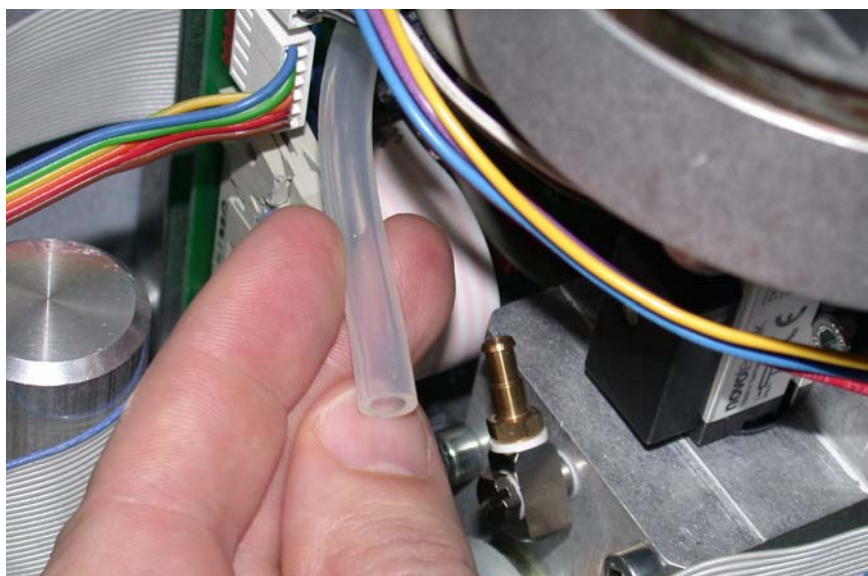

Figure 10-22. Tubing removed from the inspiratory valve
1. Remove the tubing from the inspiratory valve. (Figure 10-22.)